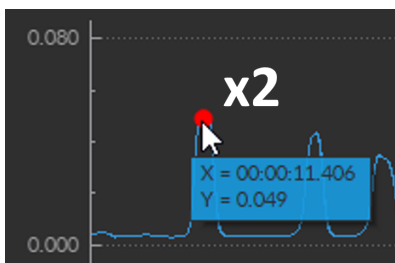

Figure 15.45: Instantaneous Value
- **Instantaneous point** - *Double clicking* (Fig. 15.45) on any element of the trace within a graph adds a red dot over that section. Mousing over the dot with the cursor displays the X- and Y-coordinates of the data point. These data points are strictly a visualization tool and their coordinates will not be saved with the rest of the data. To remove a created dot, double-click on it a second time.